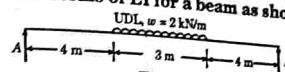

Fig. 2.
- a. Determine the deflection at the mid and slope at the end of the beam in terms of EI for a beam as shown in Fig. 2.